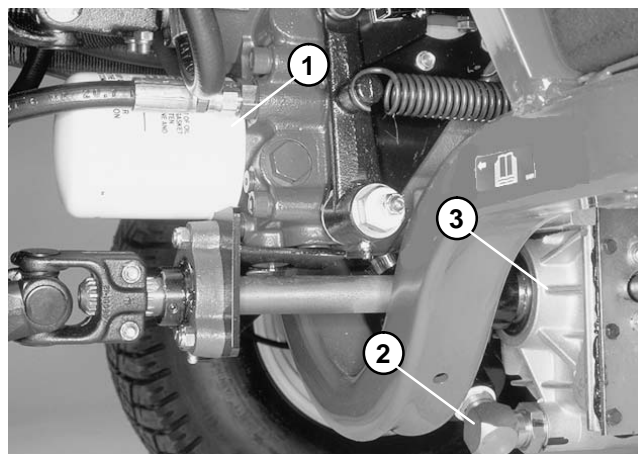

Figure 32
2. Clean area around suction line on bottom of transmission (Fig. 32). Place drain pan under line.
2. Clean area around filter mounting area. Place drain pan under filter and remove filter (Fig. 32).